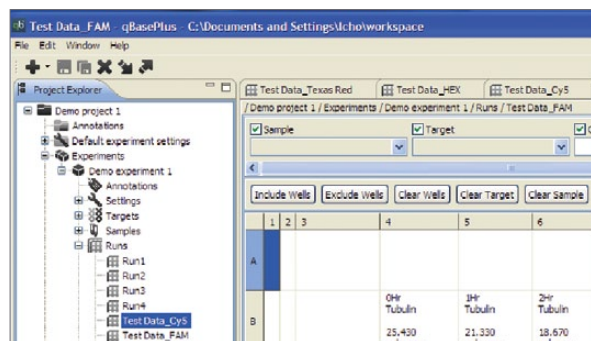

Fig. 11. Imported data displayed in the Project Explorer.
10. When the import is complete, the imported run or runs will be shown in the Project Explorer under Project 1 > Experiments > Experiment 1 > Runs (Figure 11). Each run contains data for one dye from one plate; multiplex plate data are stored as several runs, one for each dye.